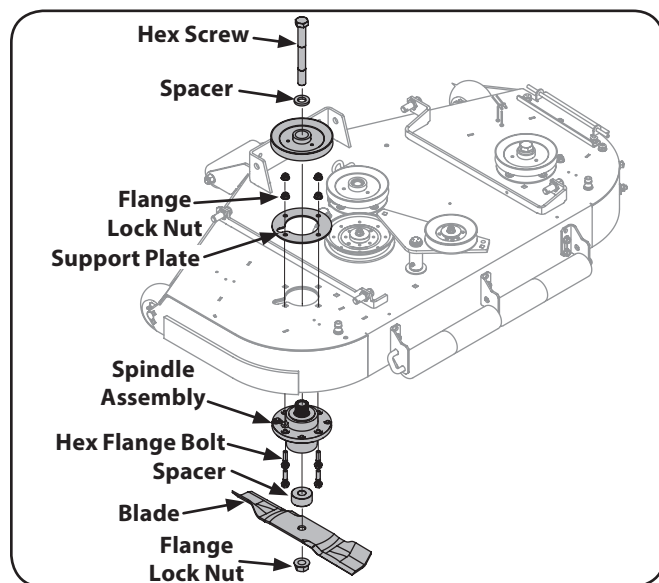

Figure 7-11
6. Using a $\frac{9}{16}$ wrench or socket ratchet remove the flange lock nuts, and the hex flange bolts. Remove the spindle assembly. See Figure 7-11.